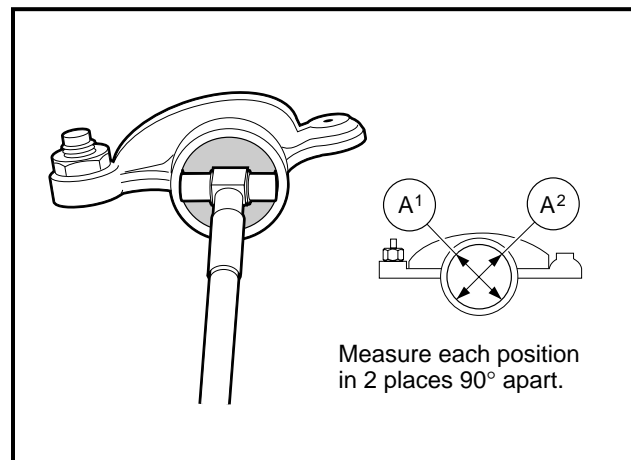

Figure 13-32 Measure I.D. of Rocker Arm Bearing
1. Using a telescoping gauge, measure the inside diameter of each rocker arm bearing at several points along its length. If the inside diameter is more than the service limit of 0.4754 inch (12.075 mm), replace the rocker arm (**Figure 13-32, Page 13-18**).